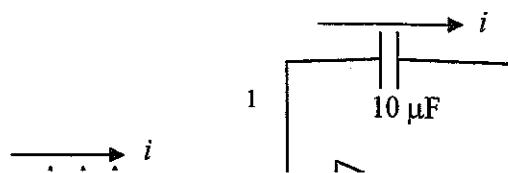

Fig. 2 Integrator circuit
Integration and Differentiation: The circuit in Fig. 2 acts as an integrator where the output voltage is given as:
2. Implement the integrator circuit as in Fig. 2.